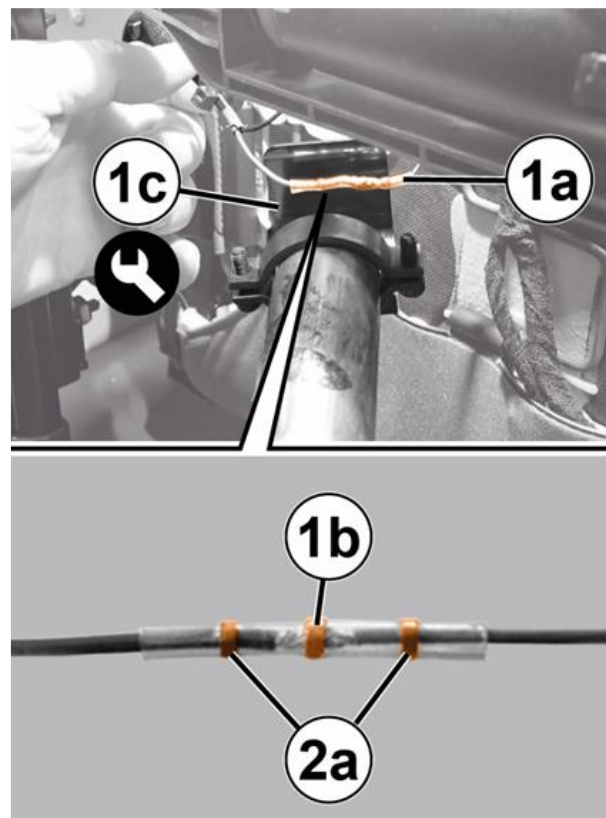

Figure 8 – Install Heat Sealing Tubes
11. Place the tin ring (1b) of the tube (1a) on the centerline of the strands, and with a hot-air plastic welding gun and the heat shield tool (1c), heat the heat-sealing tubes (Figure 8).
12. The tube (1a) should be heated until the sealing rings (2a) stick to the cable, ensuring a watertight seal and the tin ring (1b) melts, soldering the joint (Figure 8).
15. Re-engage the remaining harness retainer (2a) (Figure 8).